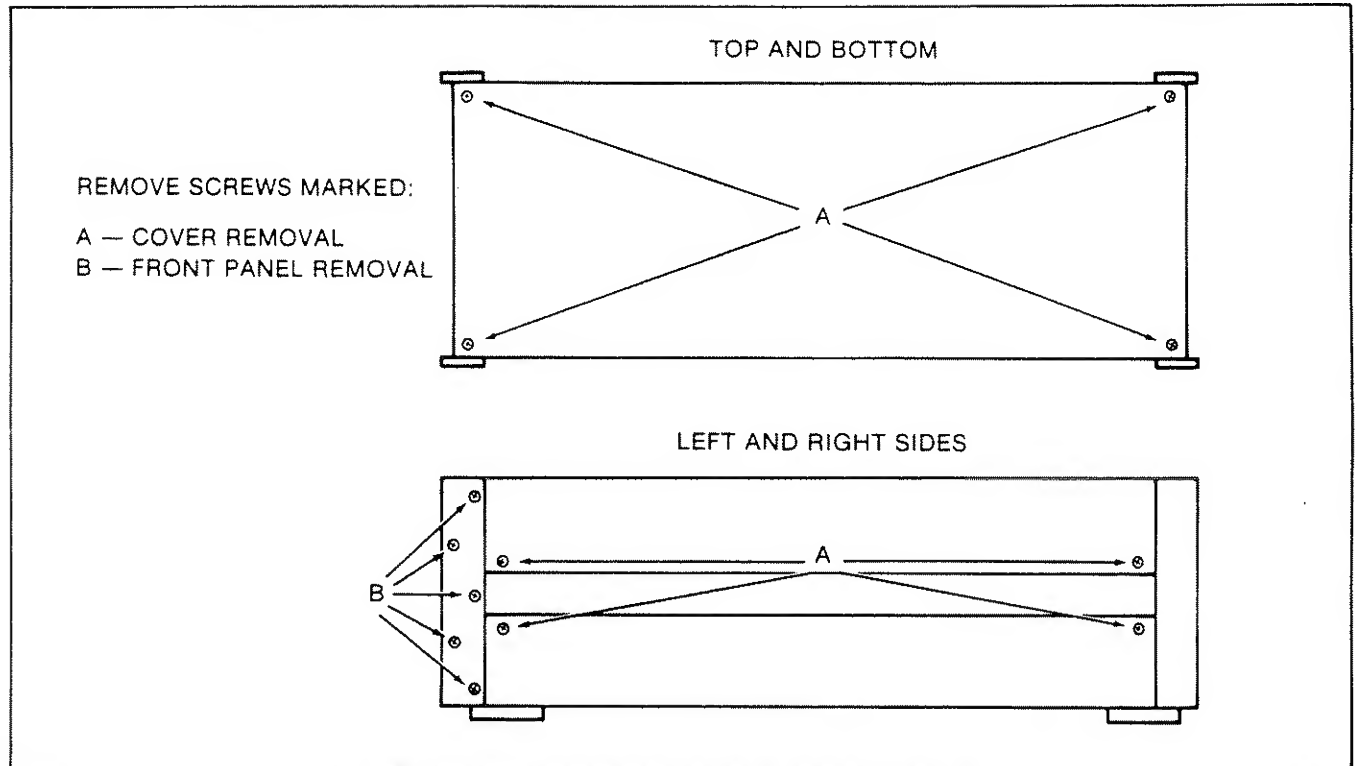

Figure 4-1. Cover and Front Panel Screw Locations
4-12. Use the following procedure to access the interior of the 732A (Refer to Figure 4-1)
4. Peel the decal from both of the front corner side moldings and remove the exposed screws. Refer to Figure 4-1 for screw locations.